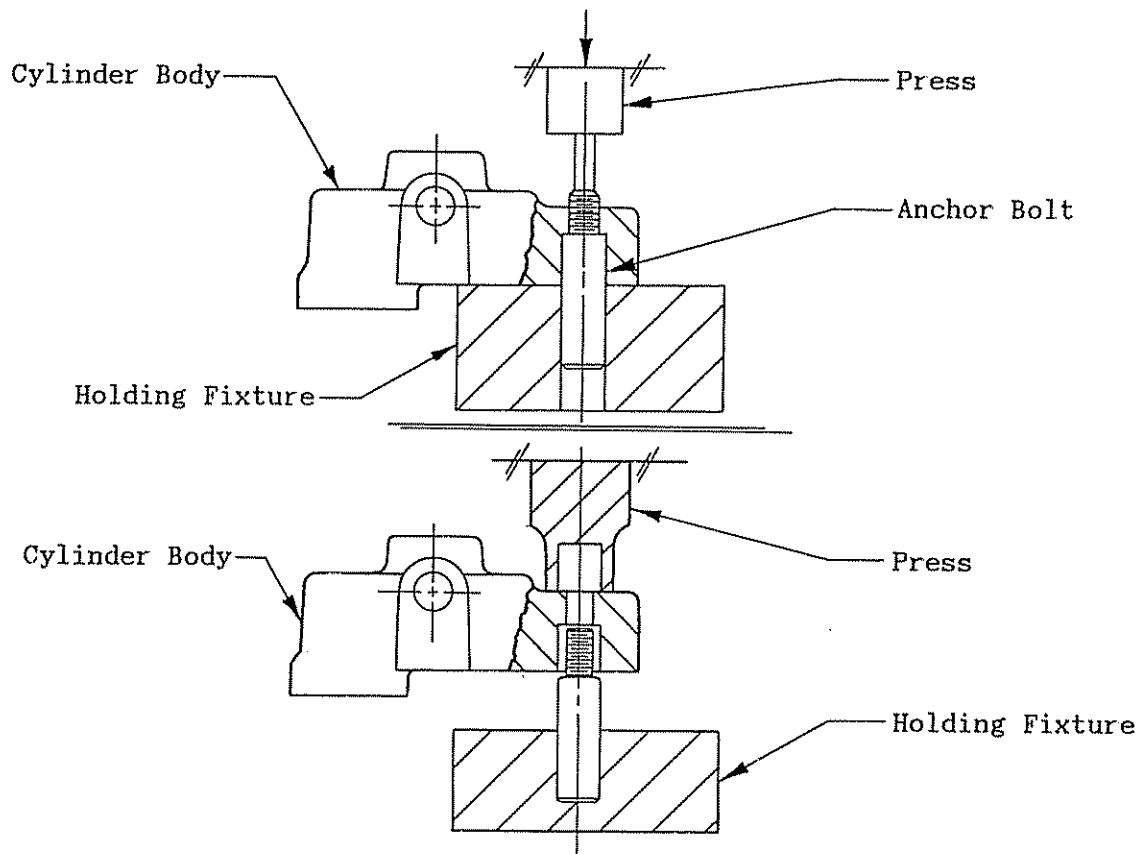

Figure 3 Anchor Bolt Removal
12.2.4.1 If removed, press anchor bolts Item #31 (ref. Figure 3) into brake and install washers and nuts. Torque nuts to 60-70 in-lbs.